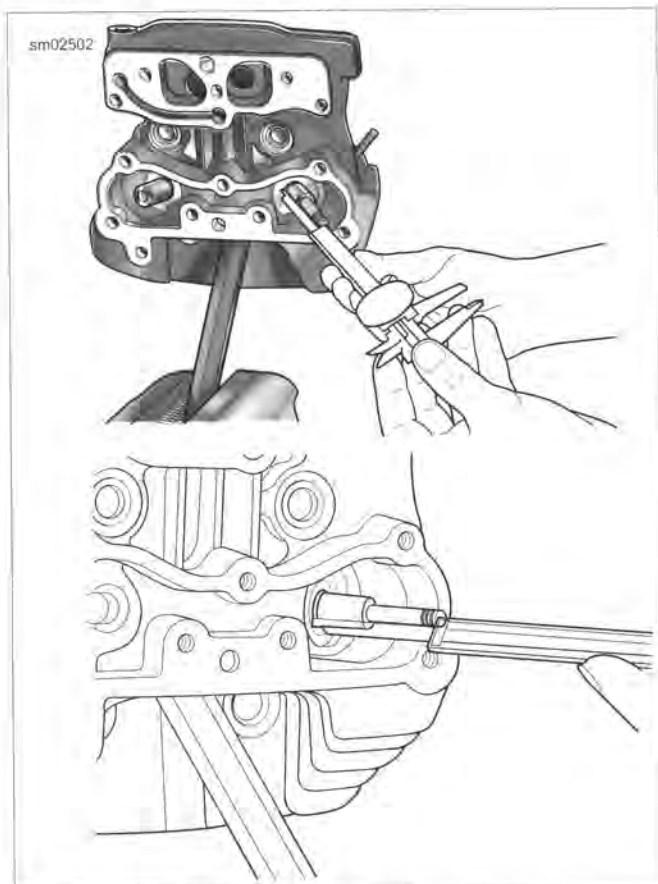

Figure 3-44. Checking Valve Stem Protrusion
5. See Figure 3-44. Measure valve stem protrusion.